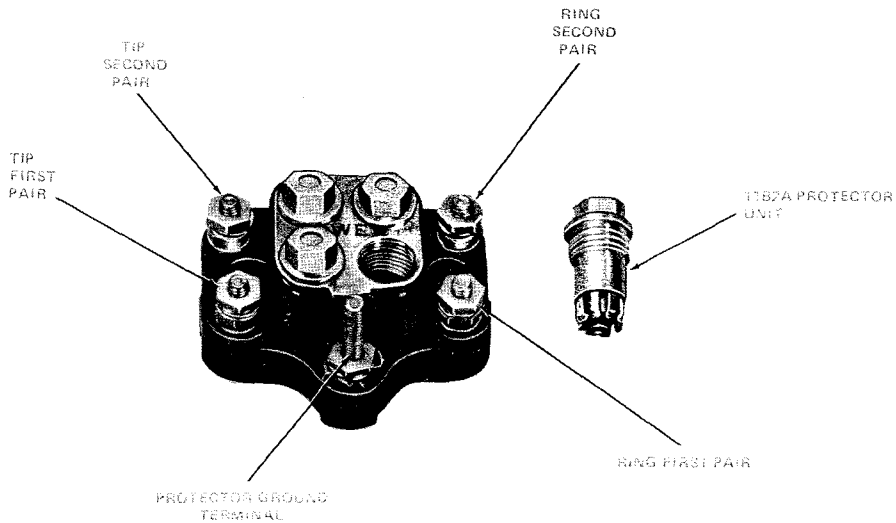

Fig. 7—128E2A-2 Protector
3.10 The 128E2A-2 protector (Fig. 7) provides protection for two pairs of wires. The protector should be grounded with a No. 12 ground wire (Table B) and may be used anywhere the 128A1A-2 protector is used.